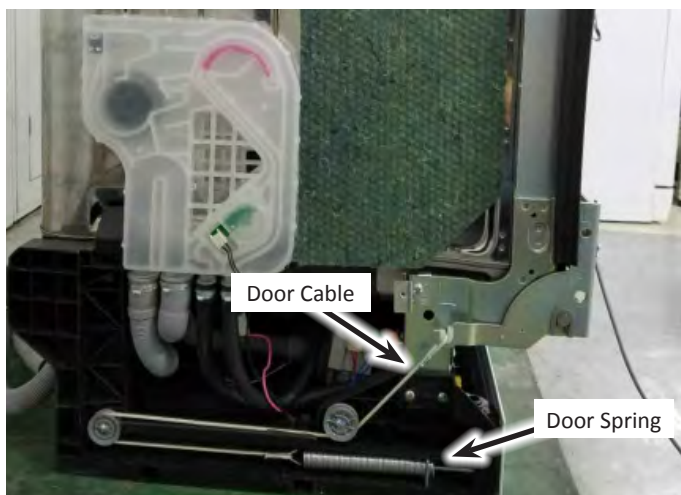

Figure 3
6. Disconnect door spring and door cable (see Figure 3).